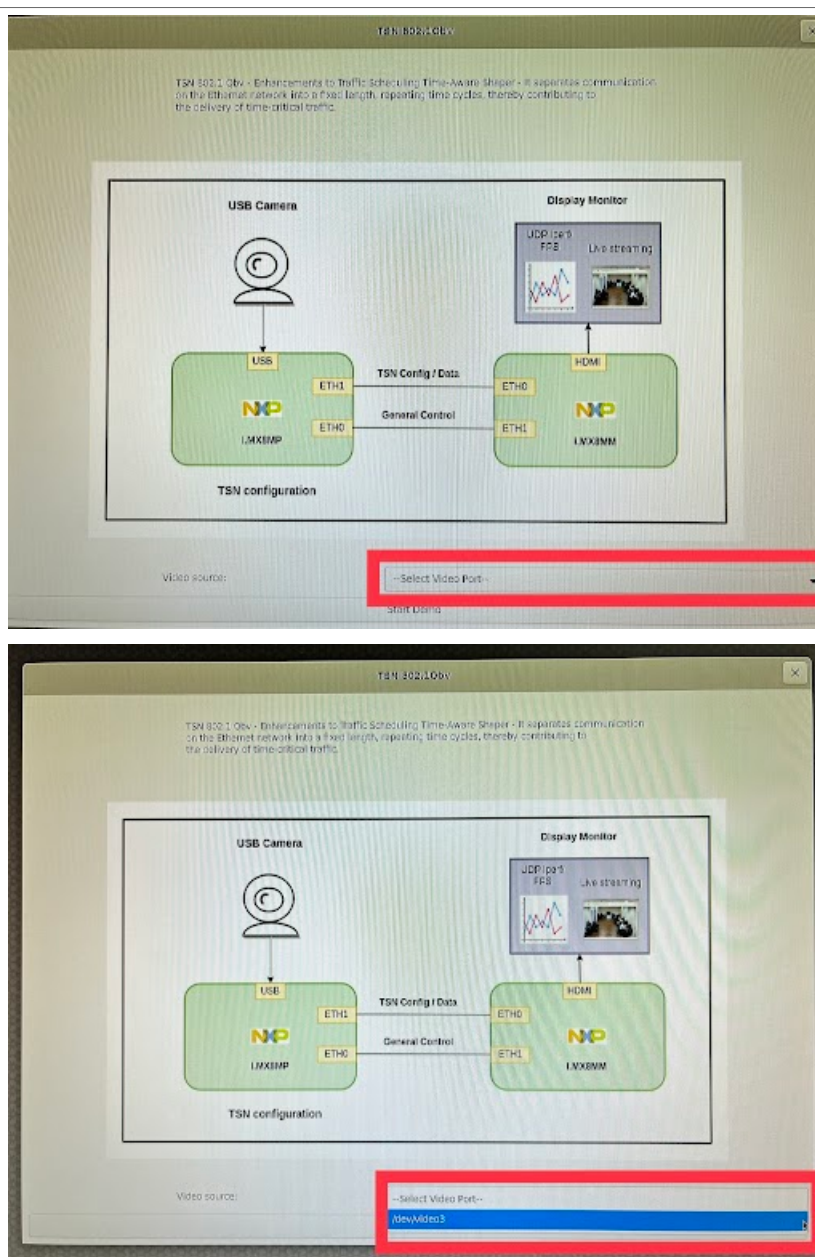

Figure 40. Video source button and dropdown menu
- The **Video source** and **Start Demo** buttons are in the login window. After selecting the video source (as shown in Figure 40), the **Start Demo** button is enabled.